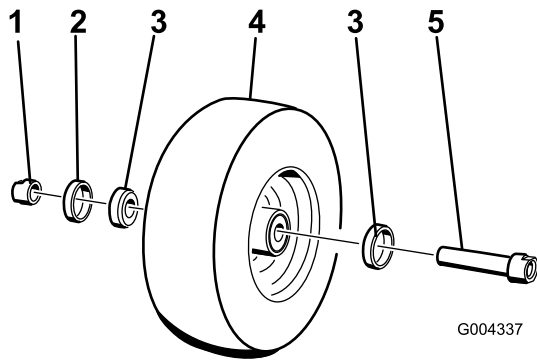

Figure 30
- Remove **one** of the spacer nuts (with wrench flats) from the axle (Figure 30).
- Remove the axle **without** removing the opposite spacer nut (Figure 30).
- Insert the bearing and a new seal into the wheel (Figure 30).
- Install the assembled nut and axle into the wheel on the side with the bearing and a new seal (Figure 30).
- Install the second bearing and a new seal into the wheel (Figure 30).